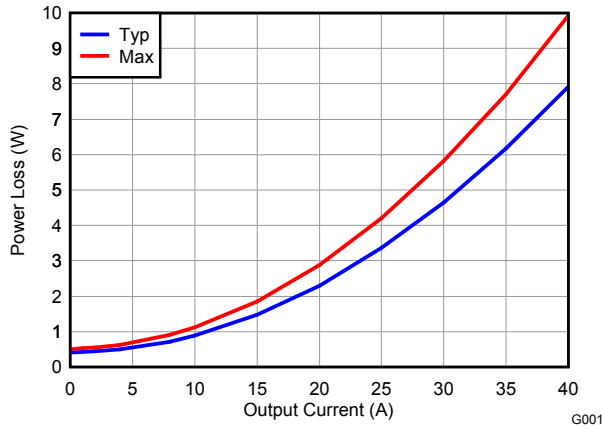

Figure 7. Power Loss vs Output Current
MOSFET centric parameters such as  $R_{DS(ON)}$  and  $Q_{gd}$  are primarily needed by engineers to estimate the loss generated by the devices. In an effort to simplify the design process for engineers, Texas Instruments has provided measured power loss performance curves. Figure 7 plots the power loss of the CSD96370Q5M as a function of load current. This curve is measured by configuring and running the CSD96370Q5M as it would be in the final application (see Figure 18). The measured power loss is the CSD96370Q5M device power loss which consists of both input conversion loss and gate drive loss. Equation 1 is used to generate the power loss curve.
The power loss curve in Figure 7 is measured at the maximum recommended junction temperature of  $T_J = 125^\circ\text{C}$  under isothermal test conditions.
- Power Loss at 25A = 3.3W (Figure 7)